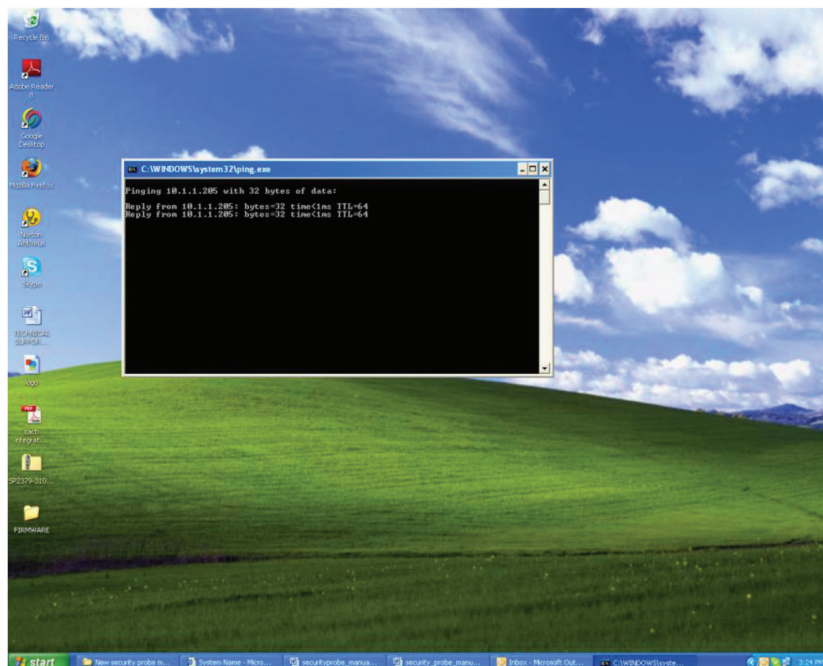

Figure 3-6. MS-DOS window.
4. After you press the "Enter" key, an MS-DOS® prompt window showing the test results appears (see Figure 3-6). If you get a message saying "request timed out," either the IP address is incorrect or a ServSensor V4E Lite is not connected to the network.